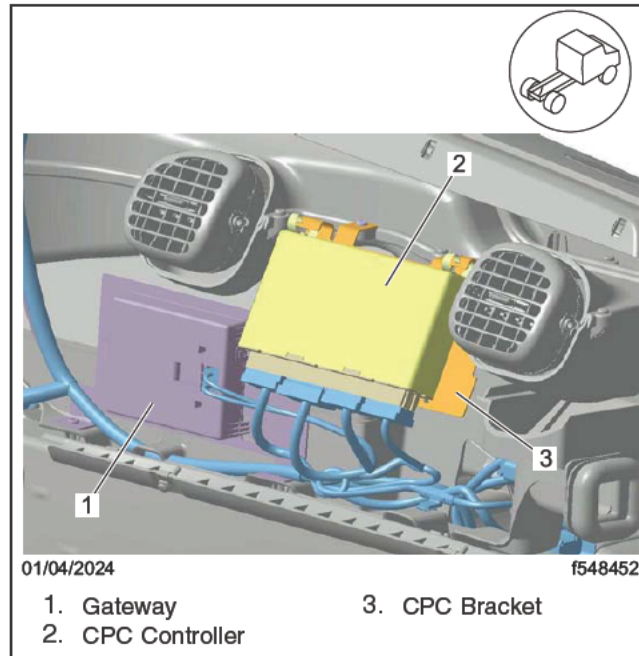

Fig. 5, CPC Module and Bracket
3. Remove the common powertrain controller (CPC) from the CPC bracket and put it aside. See Fig. 5